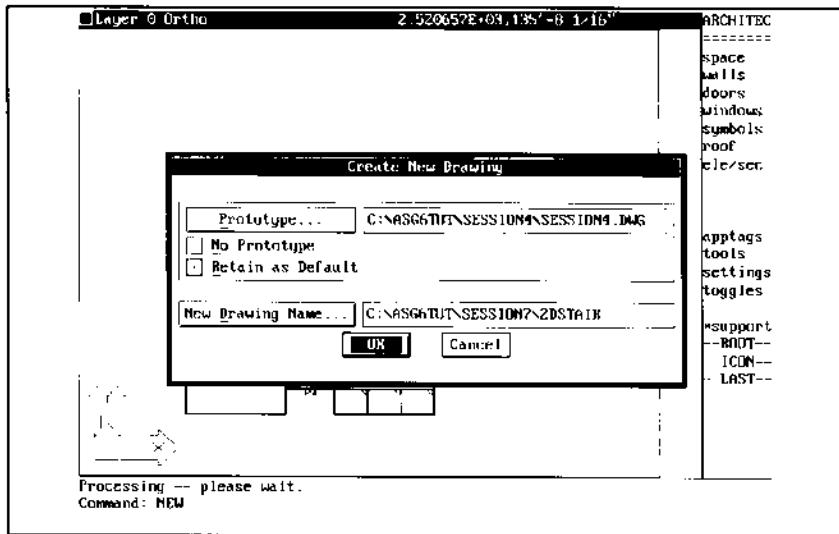

Figure 50.
5. Type C:\ASG6\SESSION4\2DSTAIR, as shown in Figure 50, then pick OK.